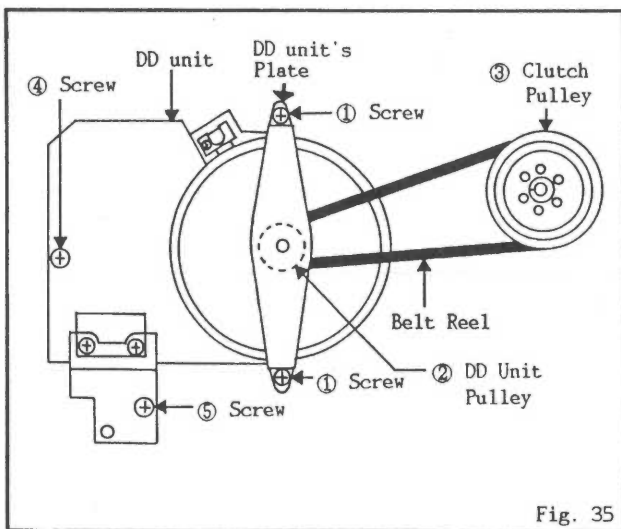

Fig. 35
1. Remove 2 screws ① to take off the DD unit and its plate. (Fig. 35)
4. Remove screw ④ (TAP TITE(S) BIND 3x10) and screw ⑤ (TAP TITE(S) BIND 3x6) fixed to the DD unit PCB. (Fig. 35)
2. Fix screw ④ (TAP TITE(S) BIND 3x10) and screw ⑤ (TAP TITE(S) BIND 3x6) fixed to the DD unit PCB. (Fig. 35)